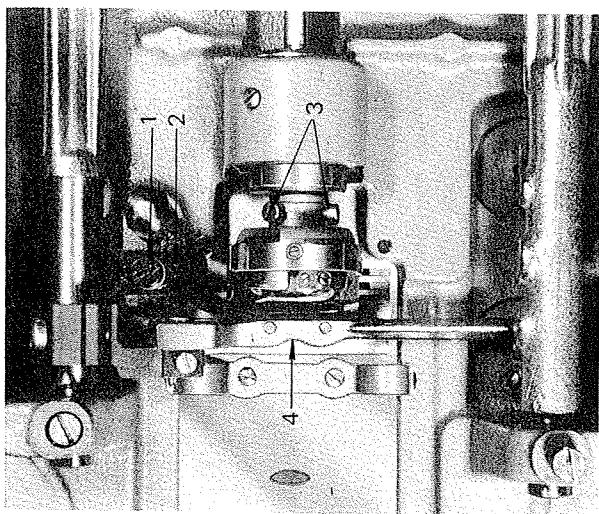

Fig. 14
- 2) Remove the hook retainer (2) by loosening the screw (1).
- 3) Loosen set screws (3).
- 4) Raise the feed bar (4) to its highest position by turning the hand wheel.
- 5) Turn the hook to place it in the position as shown in Fig. 14.
In case the hook should not be timed accurately, loosen its set screws (3) (Fig. 14), adjust until the point of the hook is at the center of the needle. Be sure to tighten the three set screws. Furthermore, the hook should be set as close as possible to the needle, but must never touch it. Clearance between the hook point and the needle should be equal to the thickness of a postal card.